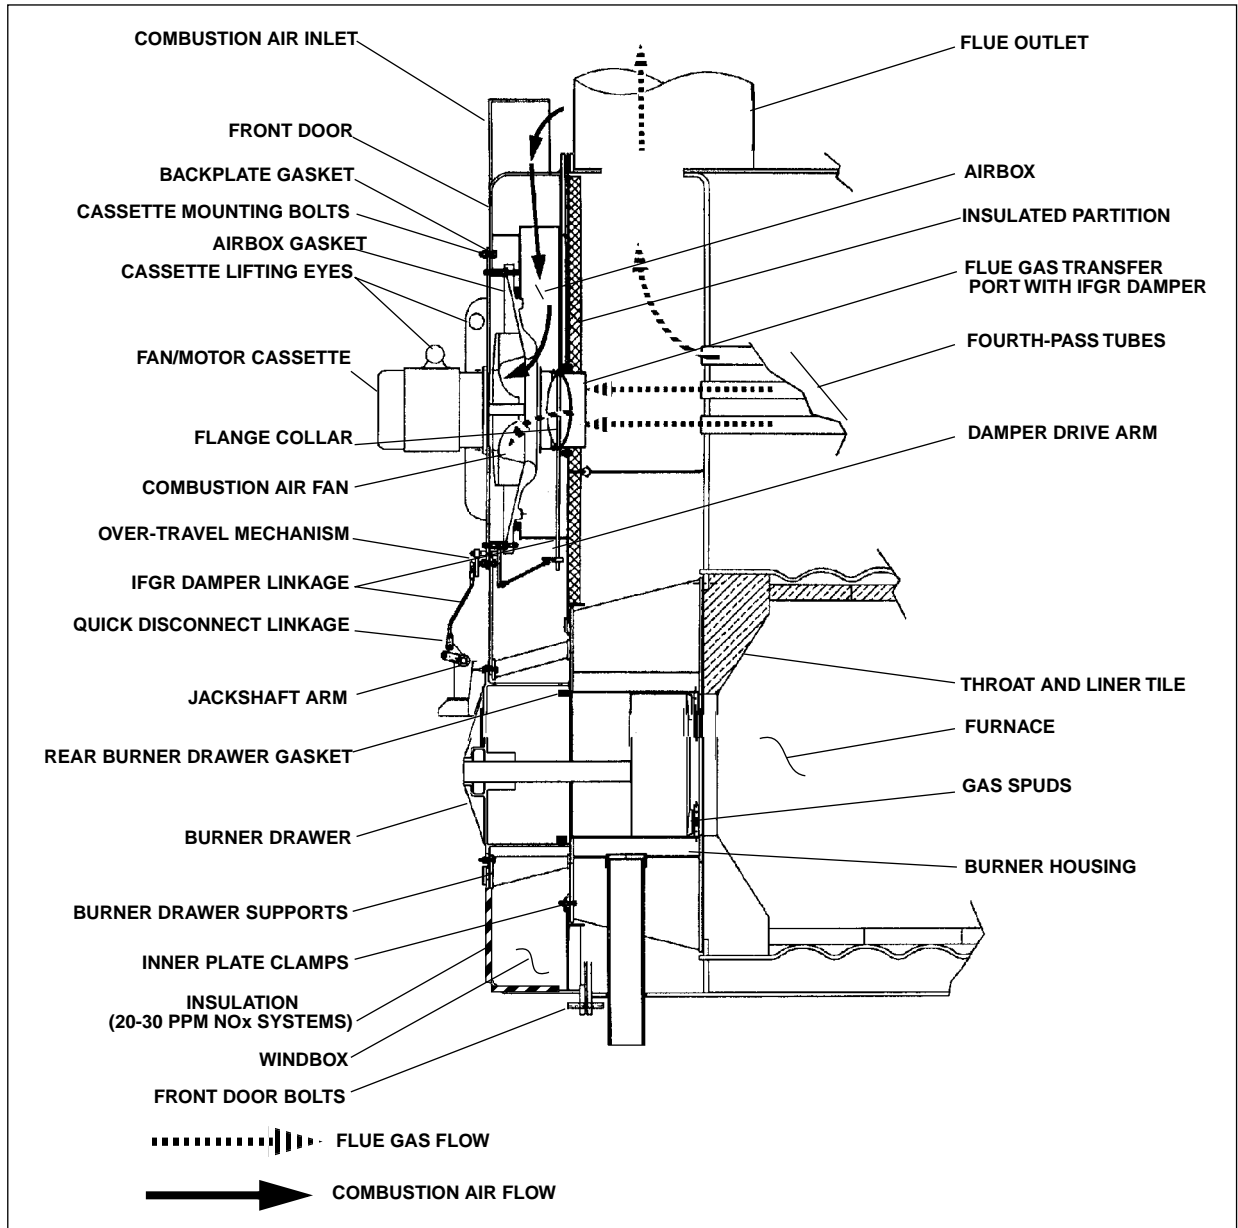

Figure 8-9: Induced Flue Gas Recirculation System, General Arrangement
6. Remove the fan/motor cassette fastening nuts (Figure 8-9).
be replaced. In particular, inspect the airbox gasket (Figure 8-9) for damage. If it needs to be replaced, refer to Section O for installation instructions.
3. Slide the cassette into position until it begins to contact the inlet gasket (Figure 8-9) then measure the clearance between the cassette flange and the front door mounting face. There must be clearance of at least 1/4" to provide adequate gasket compression when the cassette is mounted tightly to the door.